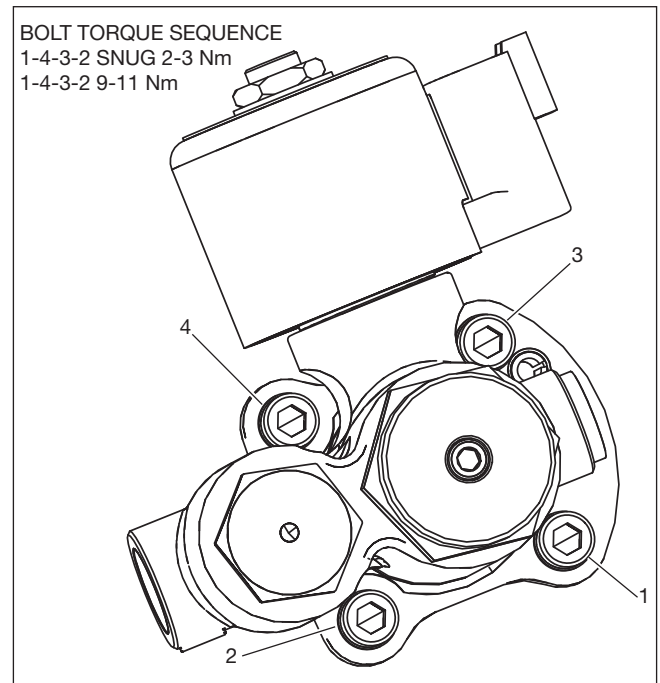

Figure 43 – Supply Circuit Torque Sequence
7. Torque the bolts using the sequence and torques shown in Figure 43.
3. Torque the bolts using the sequence and torques shown in Figure 43.